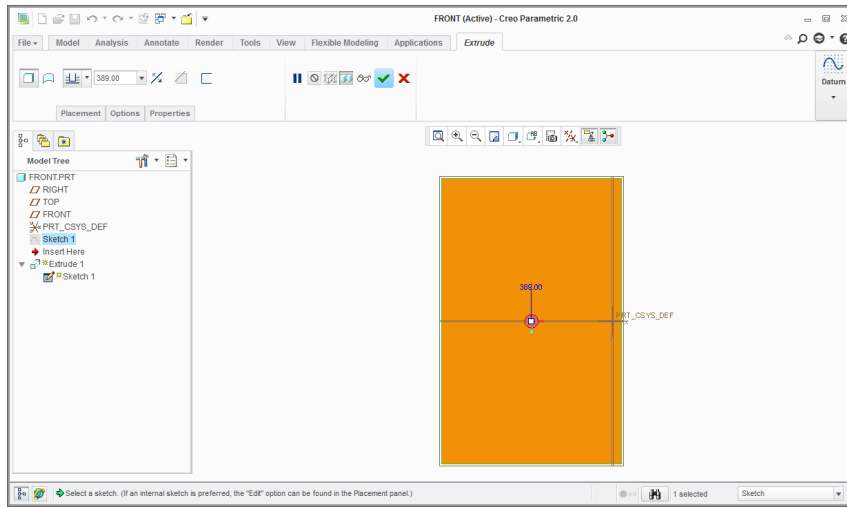

Figure 1.3: Step 4, extruding the front part.
4. Extrude the part as in figure 1.3.